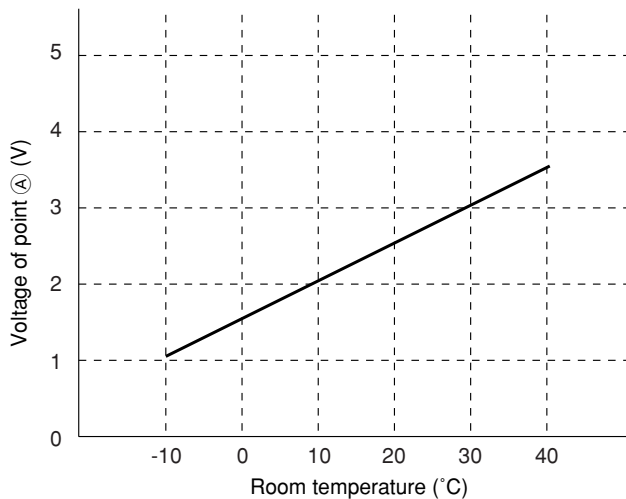

Fig. 4-2
- (1) Preheating
- (2) Low-temperature defrosts at cooling-dehumidification operation time.
- (3) Not working of reversing valve or detection of opening of heat exchange thermistor is controlled.
According to heat exchange temperature, the voltage of point ① becomes as it is shown in Fig. 4-2.